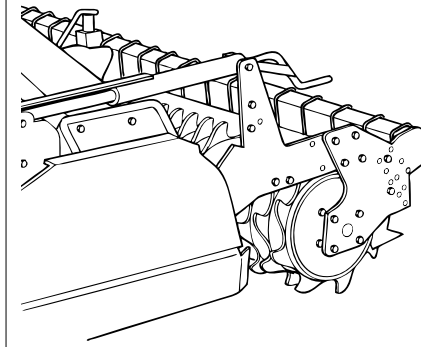

Fig. 13
2. With screw jacks (Fig. 13). This solution requires two screw jacks at the ends of the machine and adjustable by means of a graduated rod. When the roller is raised, working depth increases. When the roller is lowered, working depth decreases.